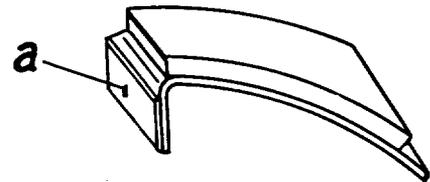

Fig. 3c
- 4) Noises that might occur in the centrifugal clutch during start-up of the separator, can be easily eliminated by applying a very light film of graphite paste or Molykote paste to metal lips "a" (Fig.3c) of clutch shoes. If too thick a film is applied, small particles of the paste might be centrifugally thrown on the friction surfaces, thus causing clutch slippage (see Sect. 14.1, item 4, and Sect.14.2, item 1).